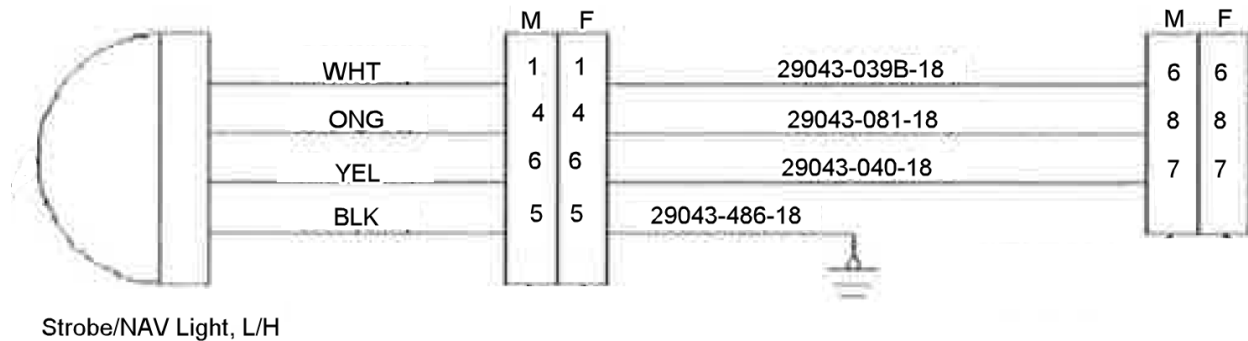

Figure 47-10
- Install the white, orange, yellow, and black wires to a male 6-pin connector coming from LED light. Connect the female 6-pin connector to the male 6-pin connector. See Figures 47-10 and 47-11.